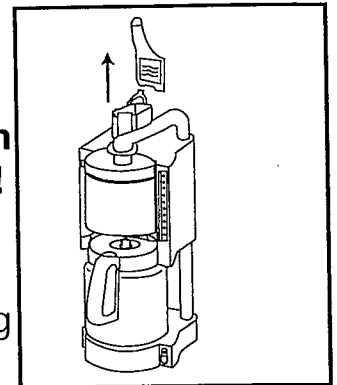

Figure 2
2. Lift off and remove the Charcoal Filter Water Chamber Lid. Lift out Charcoal Filter Water Chamber (see Figure 2).